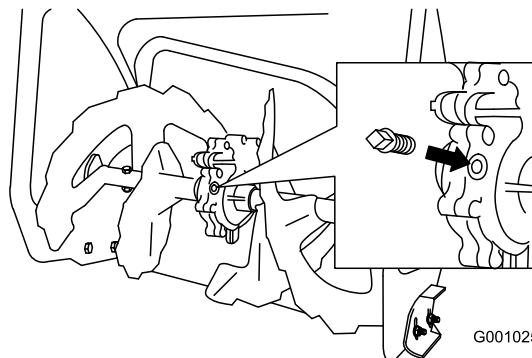

Figure 35
2. Clean the area around the pipe plug (Figure 35).